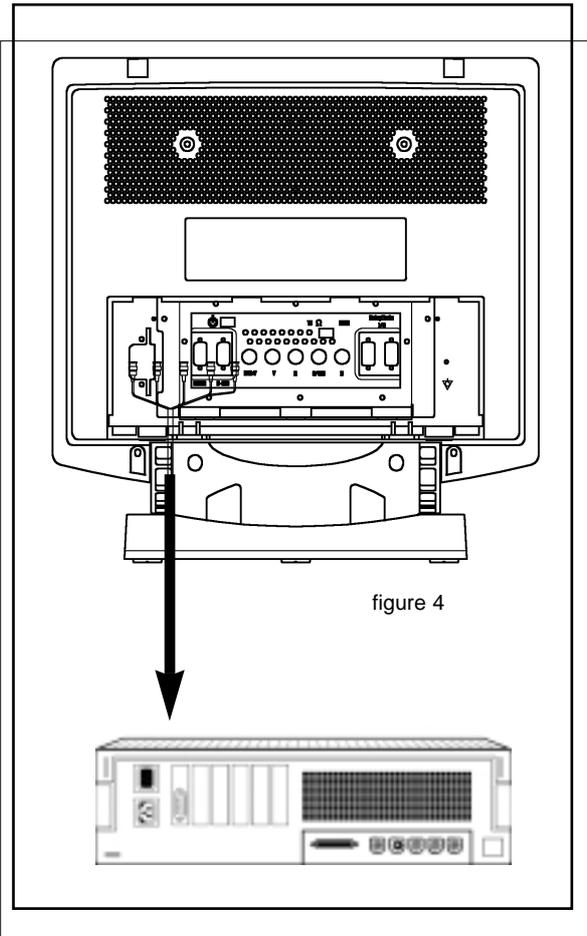

figure 4
3. (Alternative) Connect the BNC connectors (R/G/B/H/V) of the video cable to the socket as in § 2. (see figure 4). In this configuration, the guns are driven independently (the monitor is seen as 'colour').